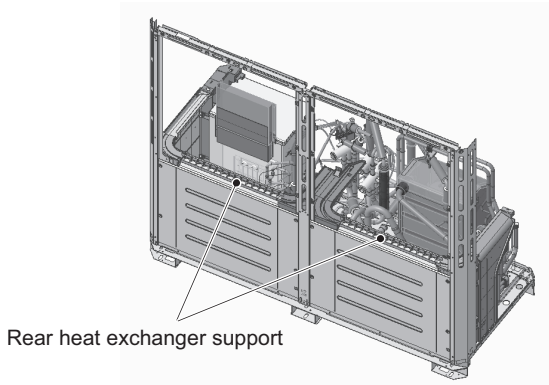

Figure 20
(17) Remove the heat exchanger by diagonally lifting it up, using caution not to damage the fins or the pipes.
(18) After removing the rear heat exchanger, dispose of the rear heat exchanger support. (See Figure 20.)